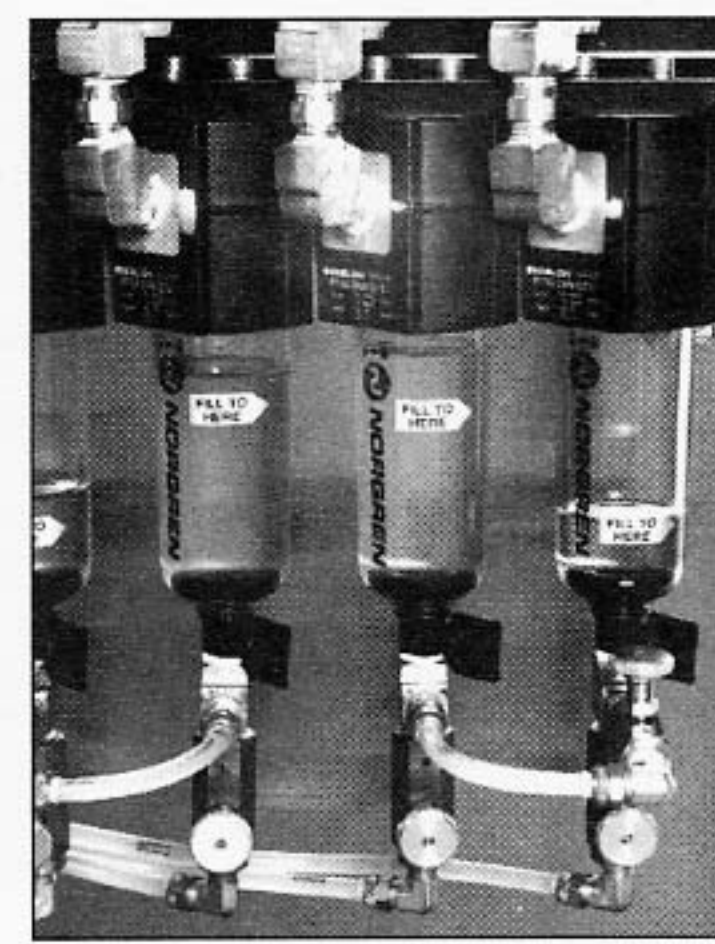

Fig. 38
If the Mineral Oil Level in Reservoir (C) is above the full line and the Oil Level in Reservoir (D) is below the full line (see fig. 38), turn Air ON, turn Main Power Switch ON, press the Start Button and turn Speed Knob to Dress (see fig. 1 & 2). ***This next step may require TWO PEOPLE to perform.*** PUSH IN AND HOLD the Right Dresser Button just to the right of the Speed Knob. Loosen Locking Nut just below Right Oil Leveling Valve Knob. Open the Right Oil Leveling Valve Knob COUNTERCLOCKWISE. Oil will flow from Reservoir (C) to Reservoir (D). When the oil level in Reservoir (D) is approximately 1" above the full line, turn the Right Oil Leveling Valve Knob CLOCKWISE TO STOP the flow of oil. Release the Right Dresser Button. Check oil levels. Repeat these steps if necessary. Retighten Locking Nut on this Valve.